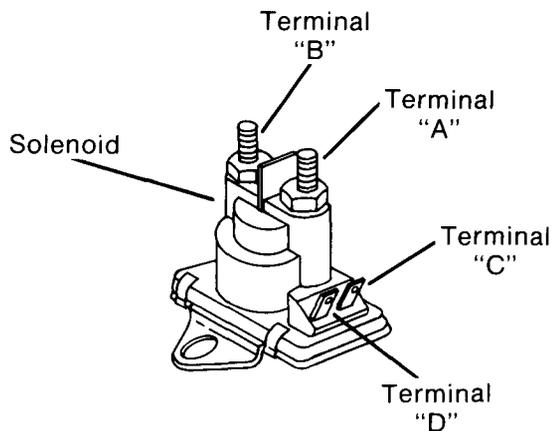

FIG. 38
- D. Connect leads of continuity tester or ohmmeter to the "A" and "B" terminals (Fig. 38) of solenoid. If continuity exists or ohmmeter reads zero, replace solenoid. If no continuity exists, go to step "E". Repeat this procedure two or three times to insure a positive test.